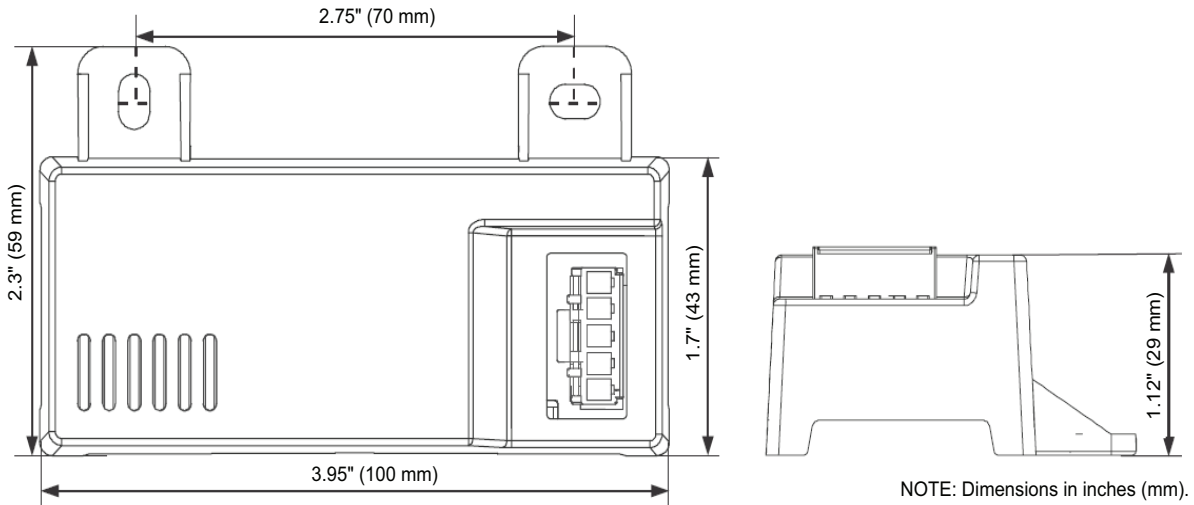
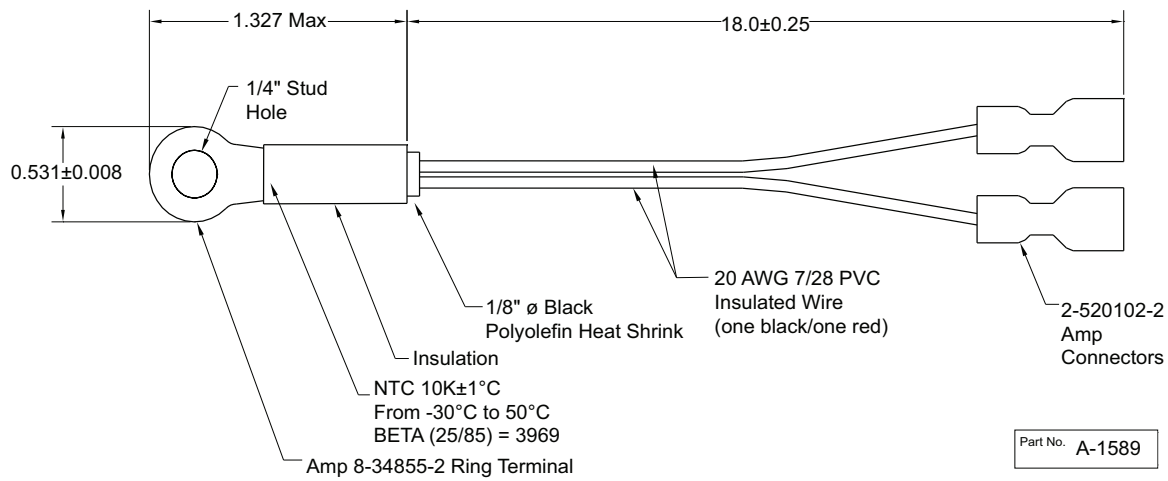
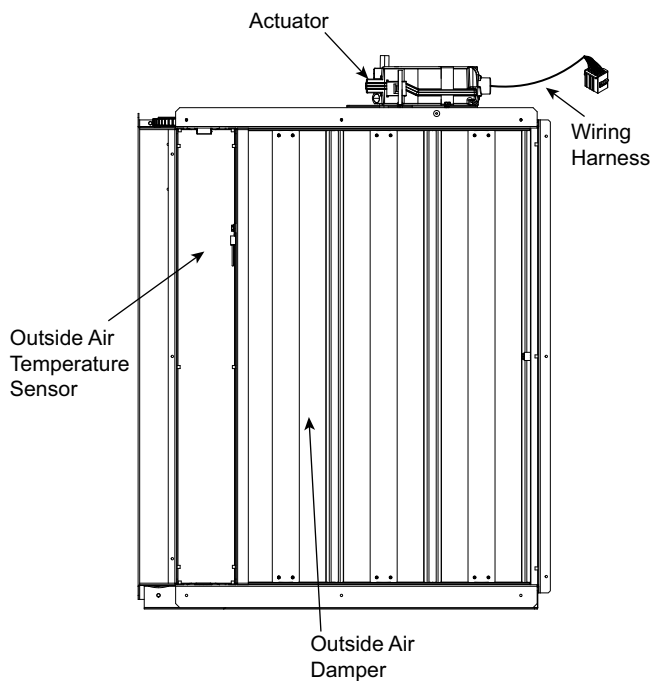

Fig. 90 – HH57LW001 Dimensional, Connection and Switching Information
Fig. 91 – HH79NZ039 Dry Bulb and Mixed Air Sensor Wiring
Fig. 92 – EconomizerONE Component Locations (CRECOMZR108A00 Shown)
When using the HH57LW001 enthalpy sensor (see Fig. 90) for outside air changeover, the existing HH79NZ039 dry bulb sensor (see Fig. 91) must be removed. The enthalpy sensor will be mounted in the same location as the dry bulb sensor (see Fig. 92). When the enthalpy sensor's OA (Outside Air) temperature, enthalpy, and dew point are below their respective setpoints, the outside air can be used for free cooling. When any of these are above the setpoint, free cooling will not be available. Enthalpy setpoints are configurable and create an enthalpy boundary according to the user's input. For additional details, see Fig. 93-94 and Table 27.
The optional enthalpy control sensor (P/N: HH57LW001) communicates with the POL224 economizer controller using the 5-wire harness, 48TC005213. The HH57LW001 sensor can be used as a single outside air enthalpy, a differential return enthalpy, or a differential return temperature sensor. Refer to the base unit control wiring diagrams found earlier in this book to wire the HH57LW001 enthalpy sensor for each option. Use Fig. 90 and Table 29 on page 68 to locate the wiring terminals for each enthalpy control sensor.
Economizers are shipped standard with an HH79NZ039 outside air dry bulb sensor (see Fig. 91). System default setting (high temp limit) is 63°F (17°C) and has a range of 48°F to 80°F (9°C to 27°C). Sensor is factory installed on economizer.
If installing the optional HH57LW001 enthalpy sensor, the HH79NZ039 dry bulb outside air sensor must first be removed. Wire sensor to harness 48TC005213 and the (5) wires from the harness to the EconomizerONE harness in the return air chamber. Harness 48TC005213 has a 5-pin plug that connects directly to the HH57LW001 enthalpy sensor. Refer to the base unit control wiring diagrams earlier in this book for wiring connections. Refer to Fig. 90 and Table 29.